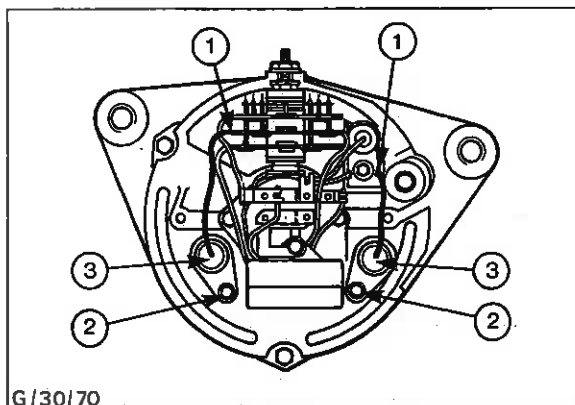

Fig. 8 - Removing Suppression Capacitors
2. Disconnect the leads (1) at the surge diode and rectifier. Remove the two screws (2) and detach both suppression capacitors (3) - see Fig. 8.